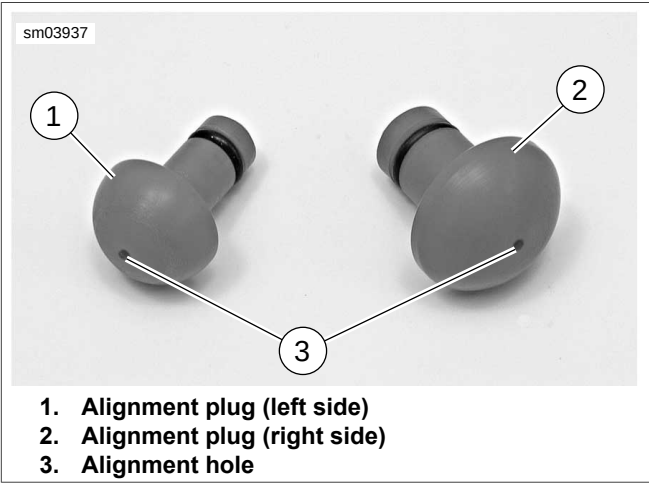

Figure 2-39. Axle Alignment Plugs
4. See Figure 2-39. Insert alignment plugs (1, 2) from the AXLE ALIGNMENT PLUGS (Part No. HD-48856-A) into left and right ends of rear axle. Turn handle until plug is firmly held in the axle.